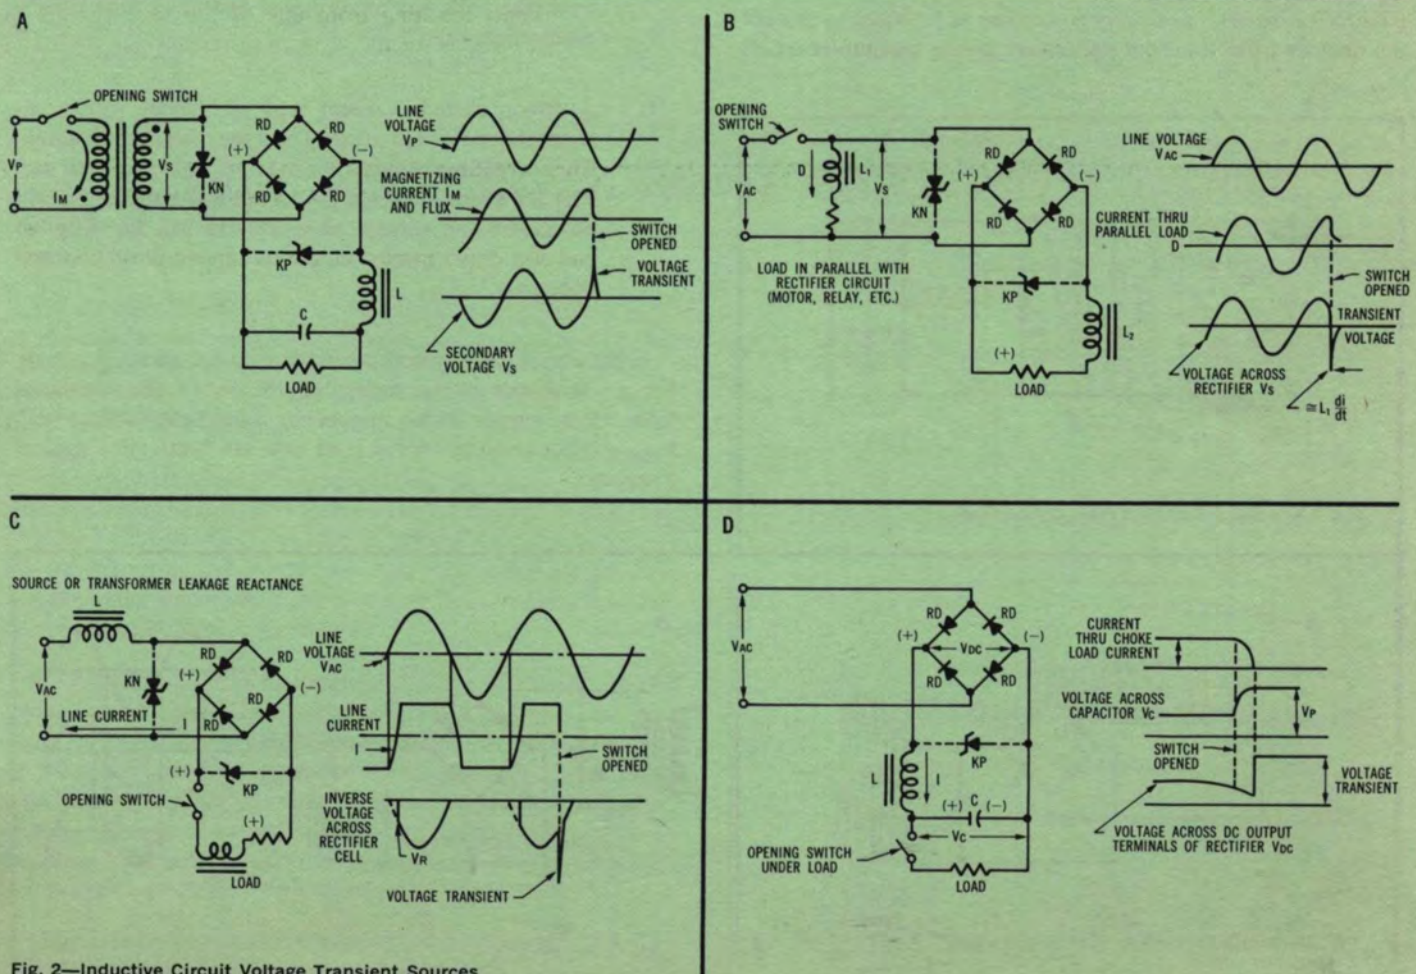

Fig. 2—Inductive Circuit Voltage Transient Sources
The transients resulting from any of the four circuits of Figure 2 can be some of the most destructive. Peak transient voltages up to 10 times the peak supply voltage have been
observed for Figures 2(A) and 2(B). In Figure 2(C), the peak transient voltage can equal:
In the circuits of Figure 2(A), (B), or (C) either a non-polarized Klip-Sel will usually provide adequate protection. However, for Figure 2(D), the only effective location for the Klip-Sel is across the rectifier dc terminals. Usually a polarized Klip-Sel is selected for this use (however, if a non-polarized Klip-Sel is the only one available, it will also provide protection in this location).